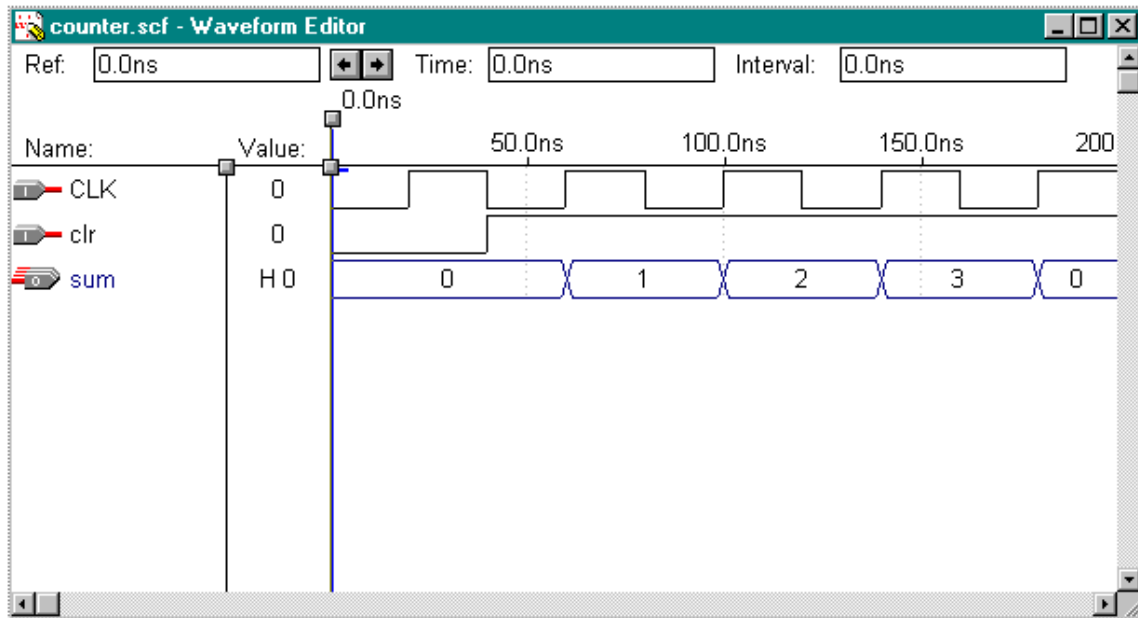

Figure 5-4.
5. Check to see if you get the same results shown in Figure 5-4.